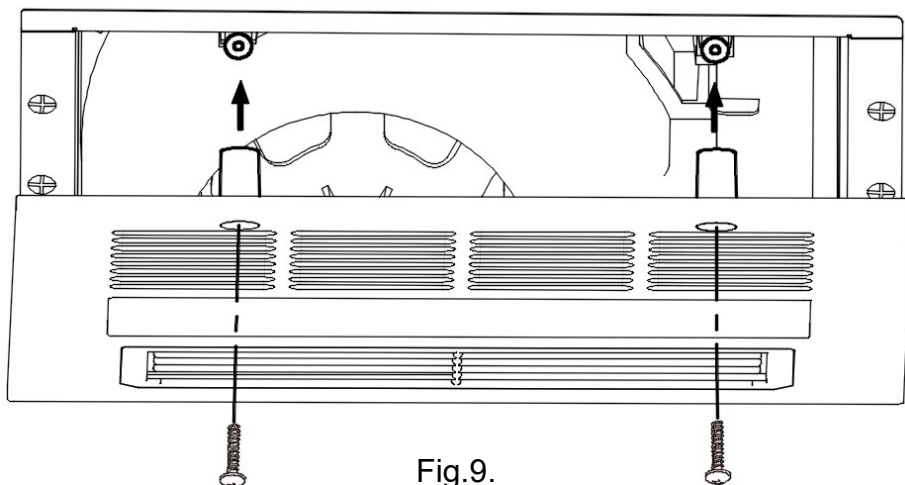

Fig.9.
10. Align the two screw pillars of the grille with the two screw pillars in the fan housing, push the grille to level with the ceiling, and finally lock it with two M4x 12 screws. (See the Fig.9.)